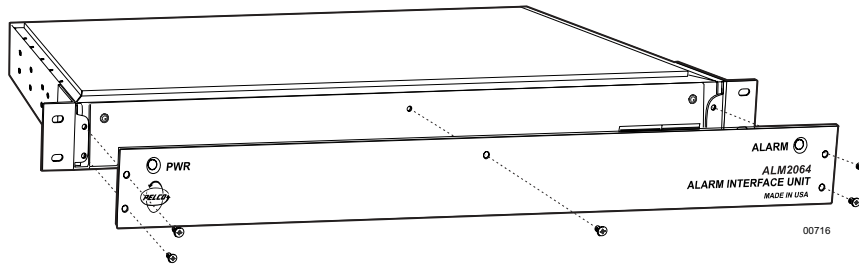

Figure 11. Front Panel Removal
1. Remove the front panel by unscrewing the five flat-head Phillips screws. Refer to Figure 11.